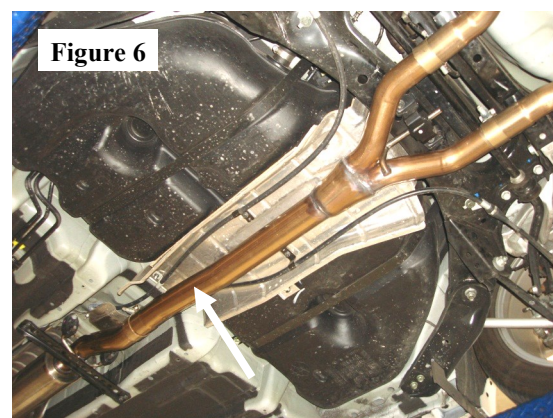

Figure 6
2. Place 2.50" clamp over expanded end of **Intermediate Pipe Assembly** and insert into **Front Muffler Assembly**. Insert hangers into rubber isolators. Do not tighten clamp. (See Fig. 6)